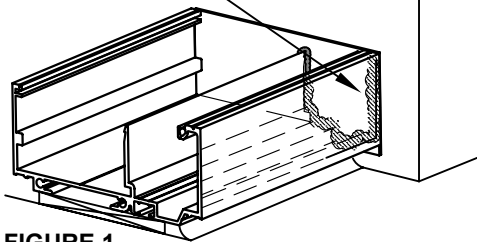

FIGURE 1
- STEP A:** Install Head and Sill receptors level and true in opening. The sill receptor should be shimmed up a minimum of 1/4" as required at each fastener and under the location of each mullion to level receptor. Seal the ends of the Head and Sill receptor and seal over all fasteners at sill. (Figure 1)